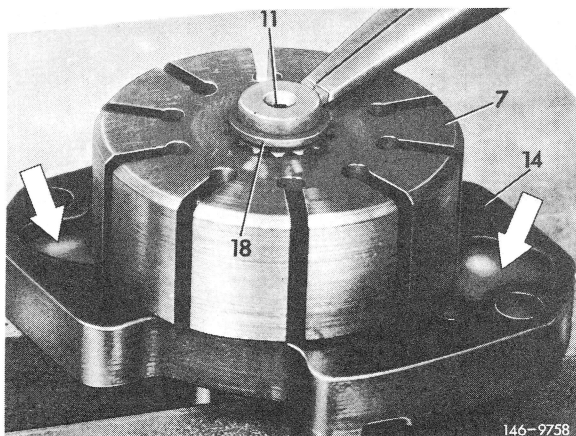

Fig. 4
7 Take locking ring (18) out of drive shaft (11), then remove rotor (7) and wear plate (14) (Fig. 4).